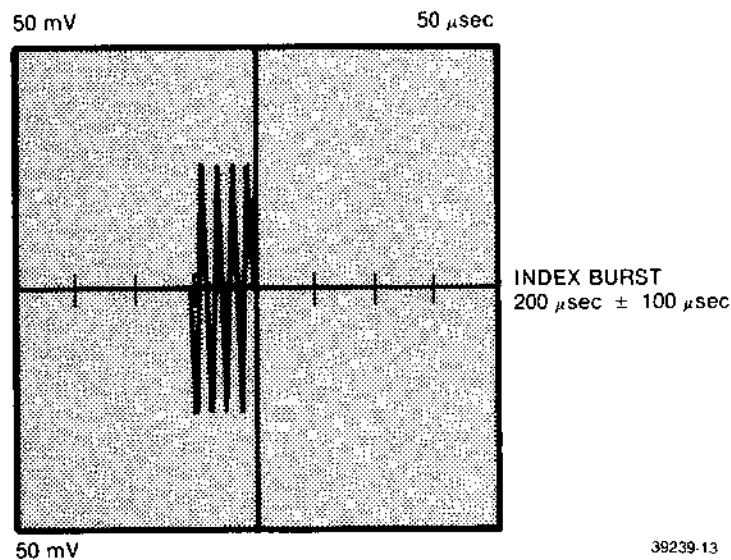

FIGURE 10-10. INDEX BURST
- c. Step carriage to track 01 (455) or track 02 (465).
- f. Observe timing between start of sweep and first data pulse. This should be $250 \pm 150 \mu\text{sec}$. If timing is not within tolerance, continue on with adjustment. See figure 10-10.